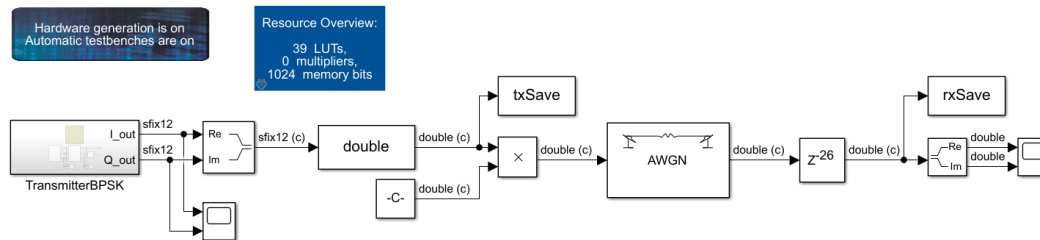

Figure 11: View of the MCC150 Simulink model.
- You will need to save both the input and the output of your channel model for later processing when you work through your home assignment. This can be achieved by adding two *To Workspace* blocks from the **Simulink/Sinks** library to your design. Connect one of them to the output of the *Data Type Conversion* and the other to output of the *AWGN Channel*. Set the **Variable Name** of the first one to **txSave** and the second to **rxSave**. When finished your design should look similar to Fig. 11. This figure also shows the data types of all signals, an option that you can enable by selecting **Display** → **Signals & Ports** → **Port Data Type**.